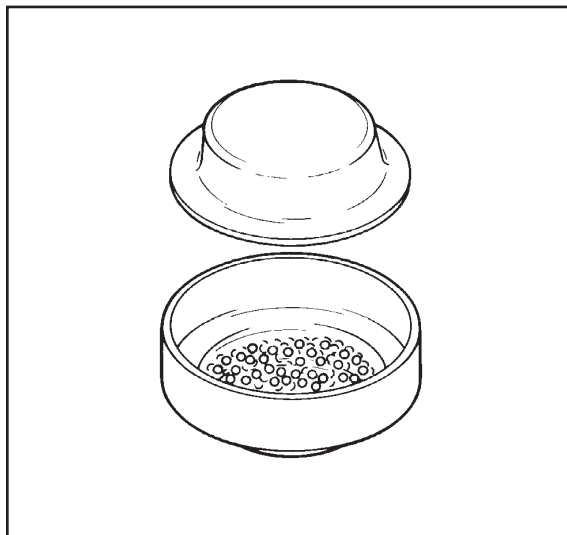

Figure 5.14
5. Place the cover over the pan as shown in Figure 5.14.